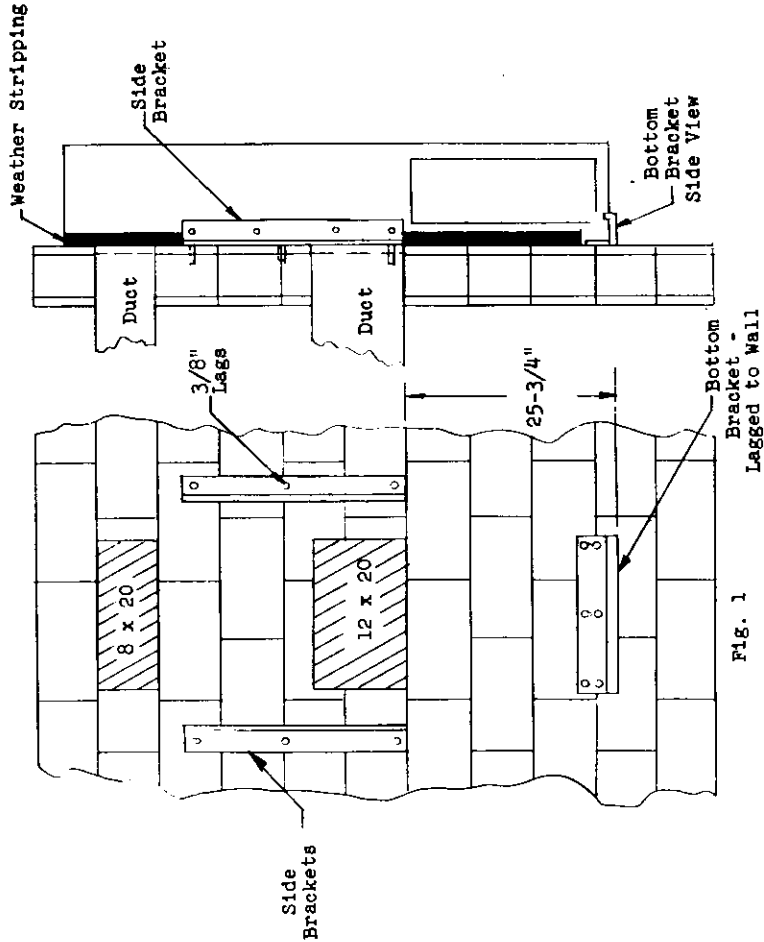

Fig. 1
1. Two holes, the size of the supply and return air openings must be cut through the wall as shown in Fig. 1, 2, 3, 4
These units are secured by wall mounting brackets which secure the unit to the outside wall surface at both sides and at the bottom. (Fig. 1).